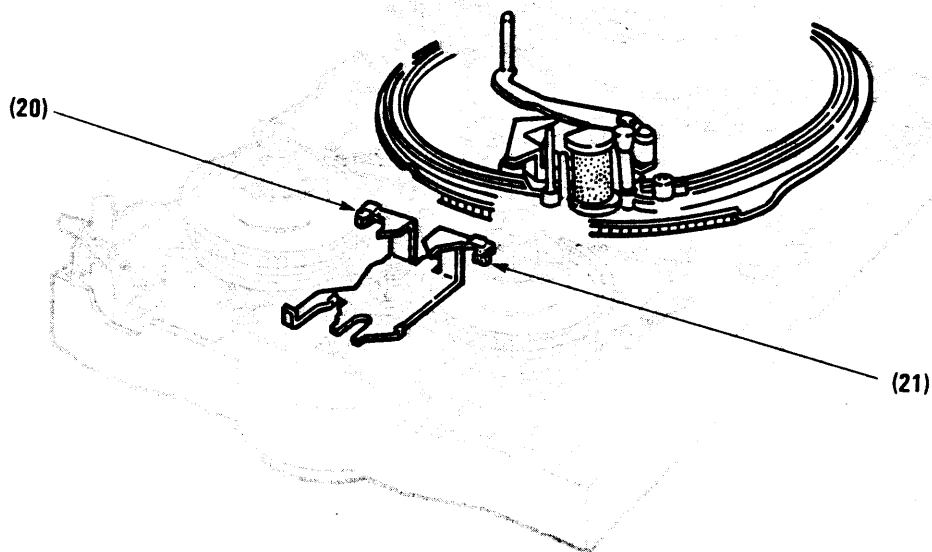
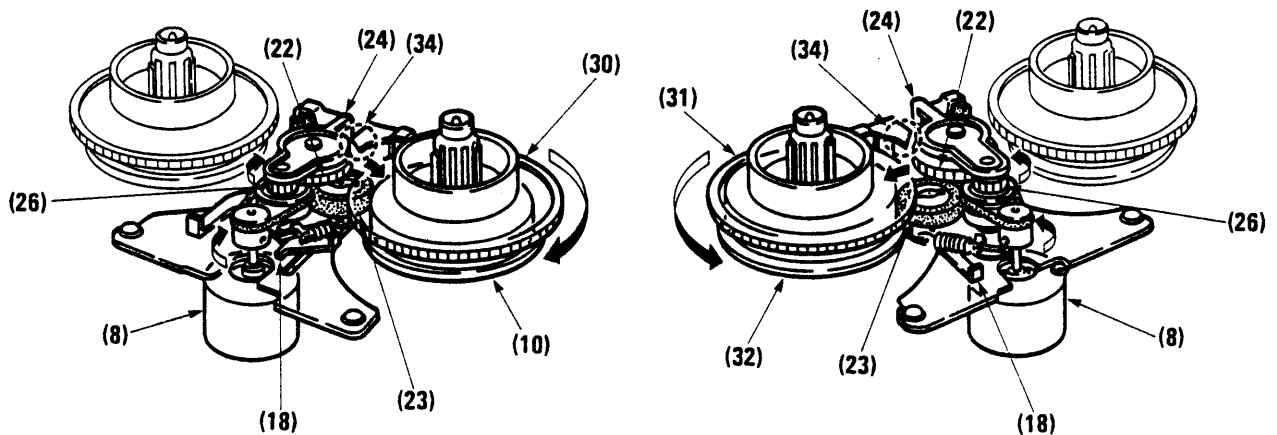

Fig. 3-3-12
Fig. 3-3-13
Fig. 3-3-12 shows a F FWD or REW condition, with the supply reel brake (20) and the take-up reel brake (21) disengaged. If, at this time, the reel motor (8) rotates in the clockwise direction as shown in Fig. 3-3-13, the center gear (26) will rotate in the clockwise direction. This rotation force will then cause the F FWD/REW roller (23) to swing in the direction indicated by the arrow, and the F FWD/REW roller (23) will mesh with the take-up reel base (10). In the same way, if the rotation direction of the reel motor (8)